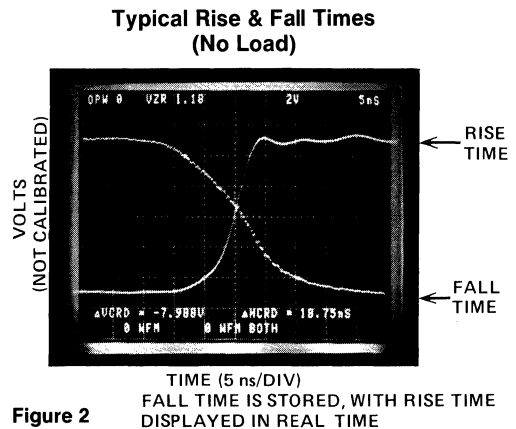
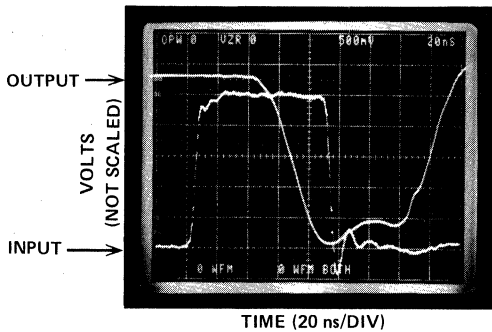
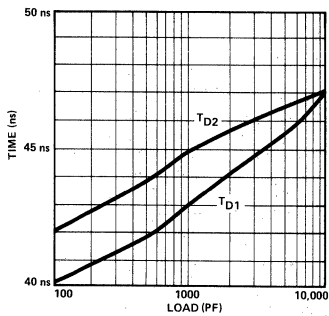
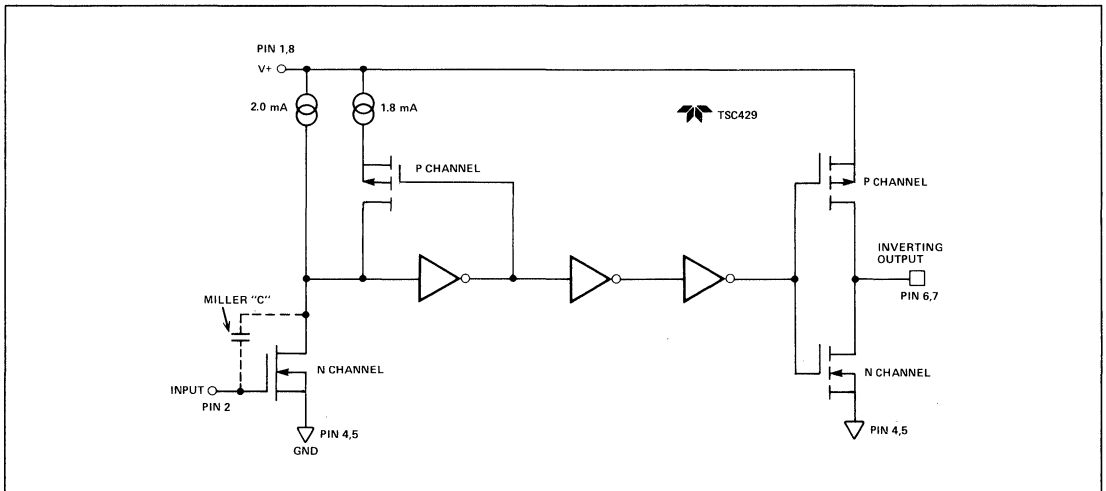

Figure 2
Figure 6
Figure 8
Figure 11
Figure 6 shows connections for a system using the TSC7109 in conjunction with a 6502 processor and 6522 peripheral interface adapter. The adapter's programmable timer provides the A/D converter's clock, thereby simplifying testing of noise rejection with different clock frequencies. This circuit allows you to evaluate numerical-integration-based designs using either a general-purpose μ P-development system or a prototyping board (eg, Rockwell's AIM-65). Figure 7 shows the assembly-language listing for the system; the flowchart appears in Figure 8.
Figure 6: You can evaluate numerical integration with the circuit detailed in this schematic. The 6522 peripheral interface adapter provides clocking and the μ P interface for the dual-slope A/D converter.
1. The rise and fall times are not equal creating a small asymmetry in the output waveform. (See Figures 2, 6 & 7) This is due to having a P channel device source current and an N channel sink current from the load. (See Figure 11) P channels do not perform as well as N types, so in the output of the TSC429 we have made the P larger to compensate. This increase does not make the P equal to the N in dynamic performance, only in static $R_{DS(ON)}$. This difference is most notable at higher loads (See Figure 6). At light loads the P actually out performs the N in speed (See Figure 2).
typical min pulse widths would be in the 35 ns region. Figure 6 is an example of typical rise and fall times and minimum pulse width when driving a 3300 pF load.
Delay time is a function of temperature and voltage with moderate effects by load. Figures 8, 9 & 10 show the effects of these parameters on delay time. Little can be done to lower the delay except for keeping the device temperature low. Please note that slow rising input signals can give the appearance of long delay times. This comes from the fact that the trip point of the Schmitt trigger input (about 1.5 volts) can often be higher than the 10% point in the waveform. In the specifications the times are measured from the 10 and 90 percent points as is industry practice. Figures 6 and 7 show typical performance. Note that the input waveform is shifted by 1/2 division on the vertical axis for purposes of clarity.
As we have mentioned before the TSC429 has a Schmitt trigger input. The hysteresis provided by the Schmitt action is measured with conditions static (DC) for the data sheet, and can change substantially when driven by a pulse. (For an explanation of how the input section works see the section entitled "Input Effects on Quiescent Current.") The input is capacitive as the input signal is driving a MOSFET gate. (See Figure 11) It therefore has the characteristic Miller capacitance from drain to gate, as well as the gate to source capacitance. The device works most effectively when driven by a relatively low impedance source such as a CMOS or TTL buffer.
Since the input threshold is set by the input MOSFET's threshold (Figure 11) the trip point changes with temperature at the rate of approximately -5 mV/°C. For this reason any input waveform that has slow rise times, such as open collector TTL, can exhibit a change in pulse width with a change in temperature at the output of the TSC429. In applications where exact reproduction of pulse width from input to output is important, fast rise and fall times are important.
The state of the input signal changes the quiescent current draw of the TSC429. The reason for this can be seen in Figure 11 which shows the input signal driving a MOSFET whose drain is attached to a current source of 2.0 mA and the source of a P channel MOSFET. The drain of the P channel is attached to a 1.8 mA current source, and its gate is tied to the output of the first inverter stage. The input to this inverter is tied to the drain of the input MOSFET and the source of the P channel MOSFET.
During the transition between the output states the P channel and N channel transistors can be on simultaneously. Although this happens for only a few nanoseconds this additional power that is dissipated can be significant at frequencies above 1 MHz at 100 pF and above 250 kHz at 10,000 pF. (See Figures 11 and 27)